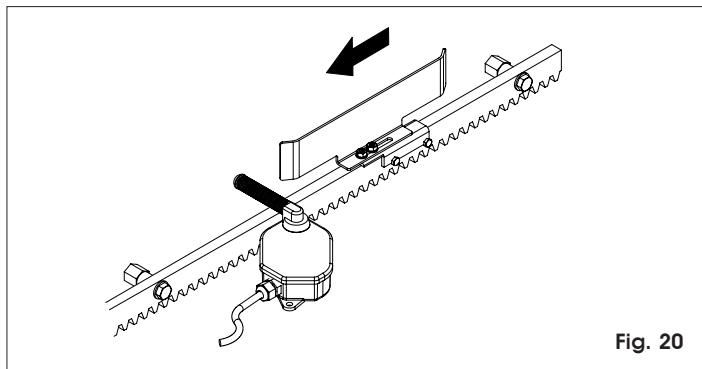

Fig. 20
- 7) Allow the plate to slide over the rack in closing direction (Fig.20). As soon as the closing limit stop LED on the control board goes off, take the plate forward by about 20-30 cm and secure it provisionally on the rack, using the supplied screws.